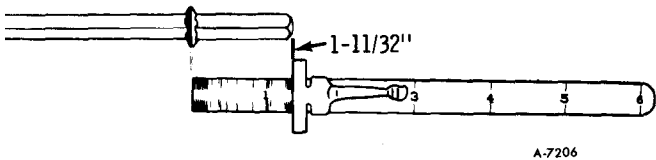

Figure 41—Oil Pump Driveshaft Extension
**NOTE:** Do not attempt to remove the washers from the drive shaft extension. The drive shaft extension and washers must be serviced as an assembly (figure 41).